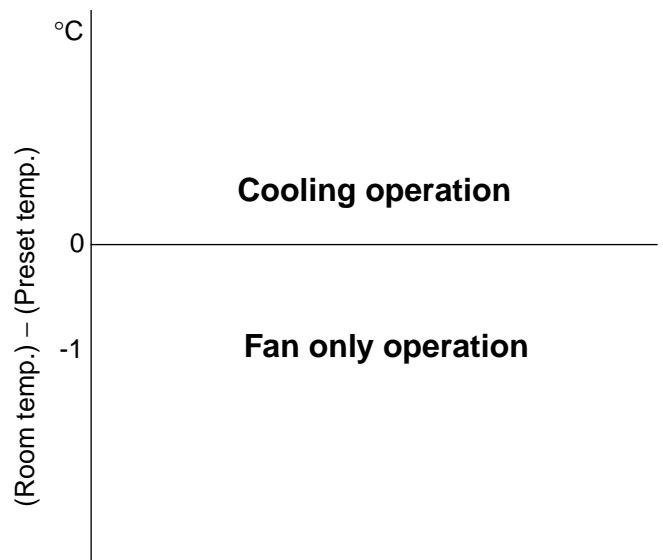

Fig. 7-3-6
- (1) One of 2 operations (Cooling or Fan only) is selected according to difference between the preset temperature and the room temperature at which the automatic operation has started, as shown in Fig. 7-3-6. The Fan only operation continues until the room temperature reaches a level at which another mode is selected.
(2) Temporary Auto
When the [RESET] button on the indoor unit is pushed, the preset temperature is fixed at 24°C and the indoor unit is controlled as shown in Fig. 7-3-6.